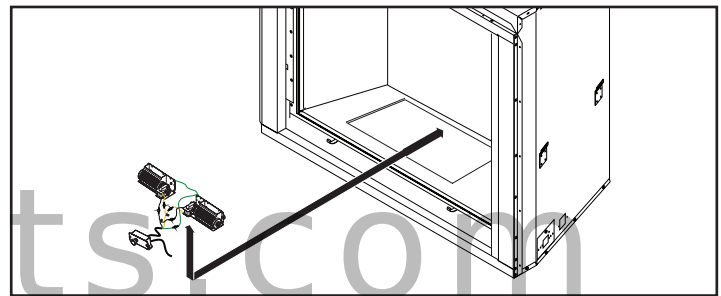

Figure 6 - Installing Blower Kit
1. **For 36" models only**, place the blowers thru the opening of the burner base already removed and against the left and right side walls of the firebox outer wrapper with the exhaust ports directed upward (see Figures 6 and 7). Make sure the blower does not come in contact with any sheet metal part.
2. **For 42" models only**, place the blowers against the rear wall and towards the sides. The air ports must not be blocked by the firebox rear plenum (see Figures 6 and 8). Make sure the blower does not come in contact with any sheet metal part.